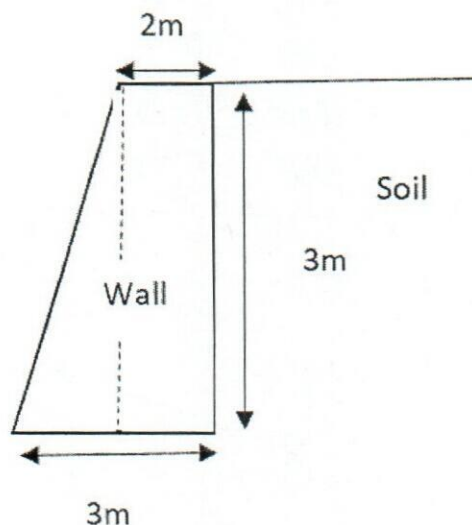

Figure 3
- b) Using the following data, analyze the stability of the gravity retaining wall given in **Figure 3** (Use Design combination A1 +M1+R1) (22 marks)
- c) Suppose that the retaining wall shown in Figure 3 is constructed with the slanted/inclined face towards the backfill. Discuss how this will affect the lateral thrust on the wall and stability considerations, sliding, overturning and bearing failure, providing adequate reasoning (6 marks)